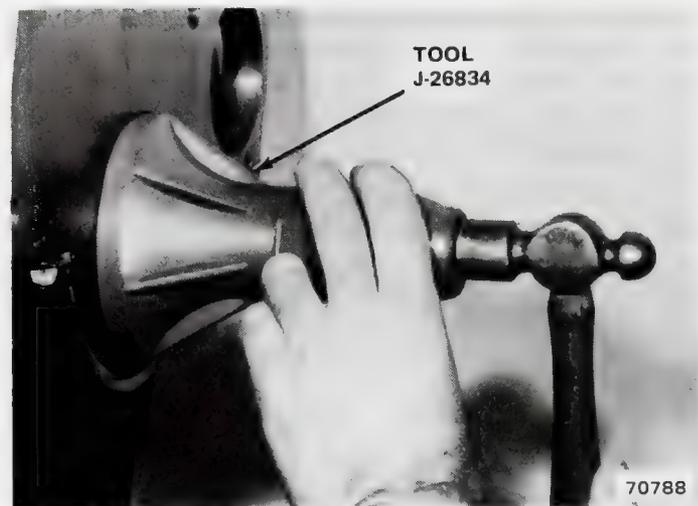

Fig. 1B-63 Crankshaft Rear Oil Seal
- (1) Remove transmission.
- (2) If equipped with manual transmission, remove pressure plate and flywheel.
- (3) Remove seal with Seal Remover J-26868.
- (4) Wipe lips of replacement seal with clean engine oil.
- (5) Drive seal into position with Installer J-26834 (fig. 1B-63).